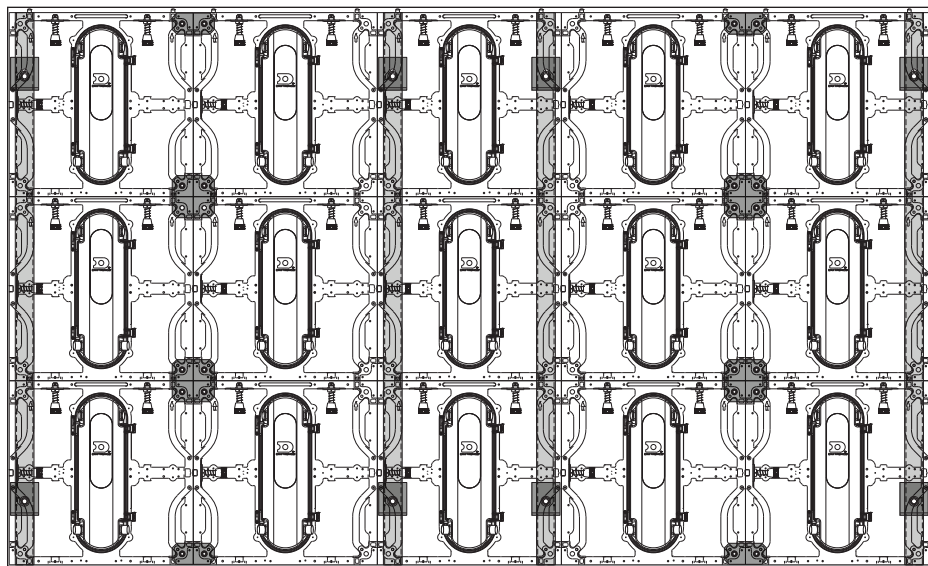
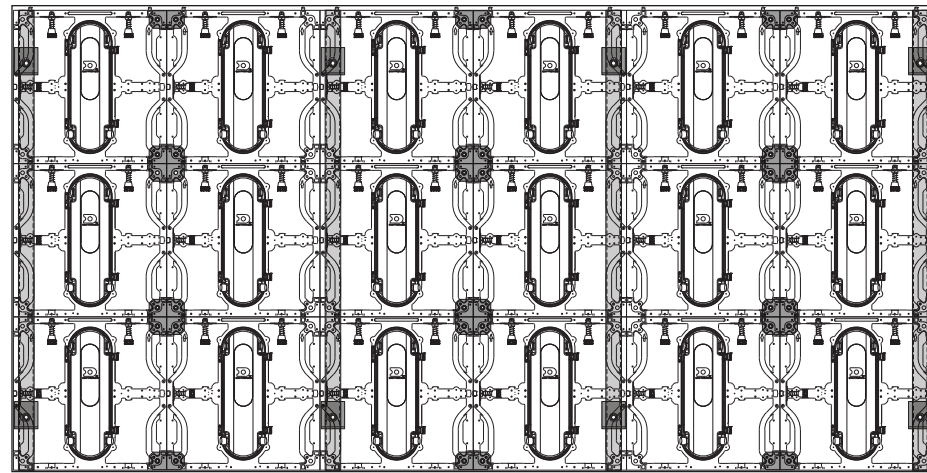

Figure 1: Single Panel Center Display
Figure 2: Dual Panel Center Display
2. Start the first panel/paired panels (with the modules removed) at the bottom-center of the display. The installation can start with either a single panel or two panels connected via the standard interconnect latch and spanning plate(s). Refer to **Figure 1** and **Figure 2**.